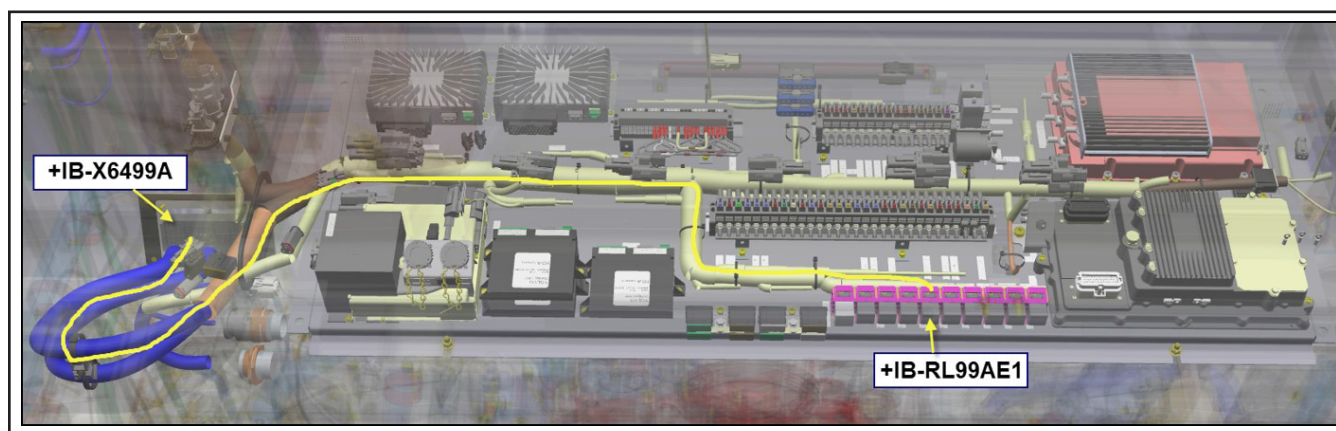

Figure 10 - Routing in the IB Panel (Components Removed for Clarity)
- 1.22. Install the relay socket connector (supplied with wires 99-2789 and 99-2790) at position +IB-RL99AE1 (Figure 10) with screw N11091, lock washer N17902 and flat washer N11092.